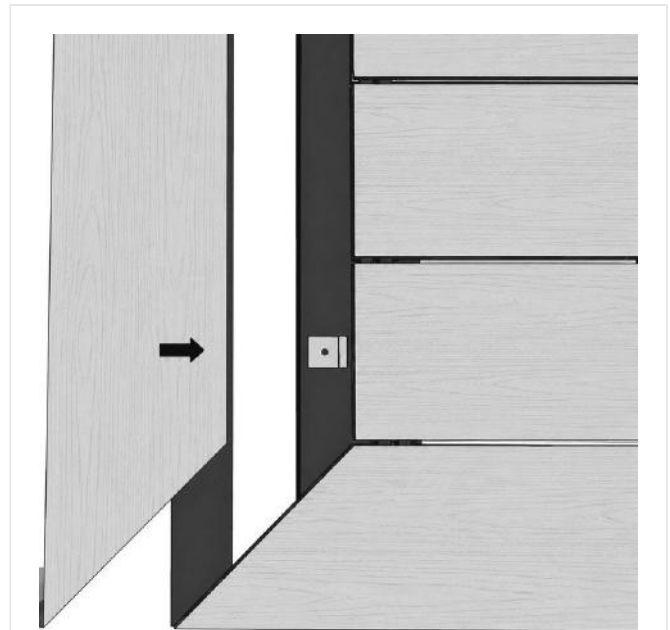

FIG. 15 – PICTURE-FRAME BOARD SLID INTO THE STARTER CLIPS
- 02 Where the picture frame runs parallel, you can install the board as per steps 1–6 of Decking installation with a 45° mitred end (fig. 15).
- 04 Slide the picture-frame board into the starter clips (fig. 15). You must leave the standard expansion gap between the mitred ends of the picture-frame border.